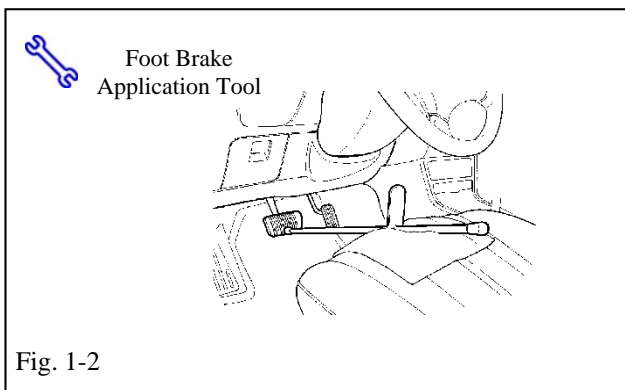

Fig. 1-2
- (c) Add seat protection (blanket) and apply the foot brake using a foot brake application tool (Fig. 1-2).